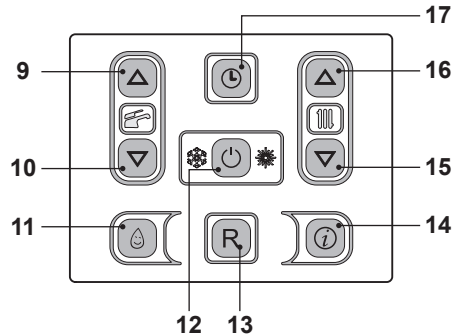
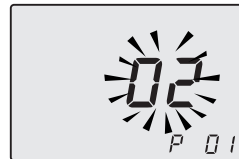

Fig. 7.17
Fig. 7.18
- Enter in "programming mode" by pressing keys 12 - 15 - 16 (Fig. 7.17) for 10 seconds at the same time until the letters **P01** are displayed on the LCD display, indicating that "parameter 01, has been activated (Fig. 7.18).
- By pressing key 12 (Fig. 7.17) confirmation of the inserted value is obtained.
- Press keys 15 or 16 (Fig. 7.17) to exit without changing the value Fig. 7.19)
However, if the ambient temperature is not comfortable, the flow temperature of the heating plant can be increased or reduced by  $\pm 15^\circ\text{C}$  by acting on keys 15 (reduce) and 16 (increase) (Fig. 7.17).